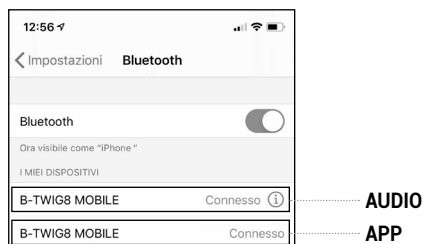

Fig.4F
**Note:** when the data connection via APP is active, a second non-selectable identification "B-TWIG 8 MOBILE" will appear in the Bluetooth® menu of your mobile device. It is normal and allows the user to check the data connection between the APP and the system (Fig.4F)